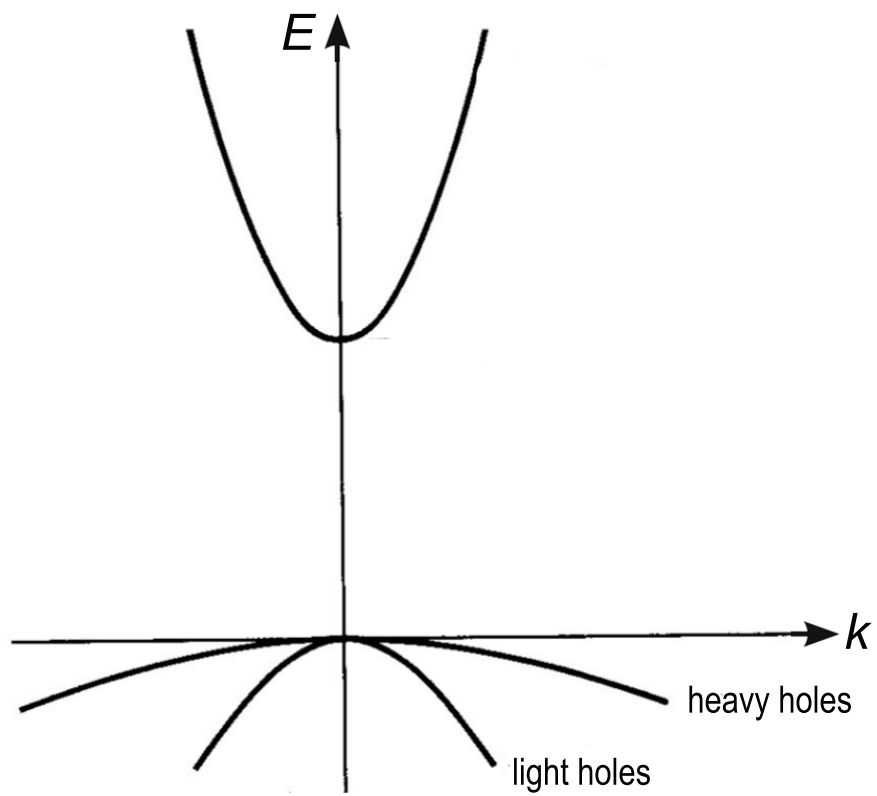

Fig. 3
- 3 (a) Figure 3 shows a schematic $E-k$ diagram of a semiconductor.
- (d) Explain why and how the band gap changes if methylammonium is changed to formamidinium (FA), i.e. comparing MAPbI_3 and FAPbI_3 . Note that FA represents an organic cation with a larger ionic radius. [10%]